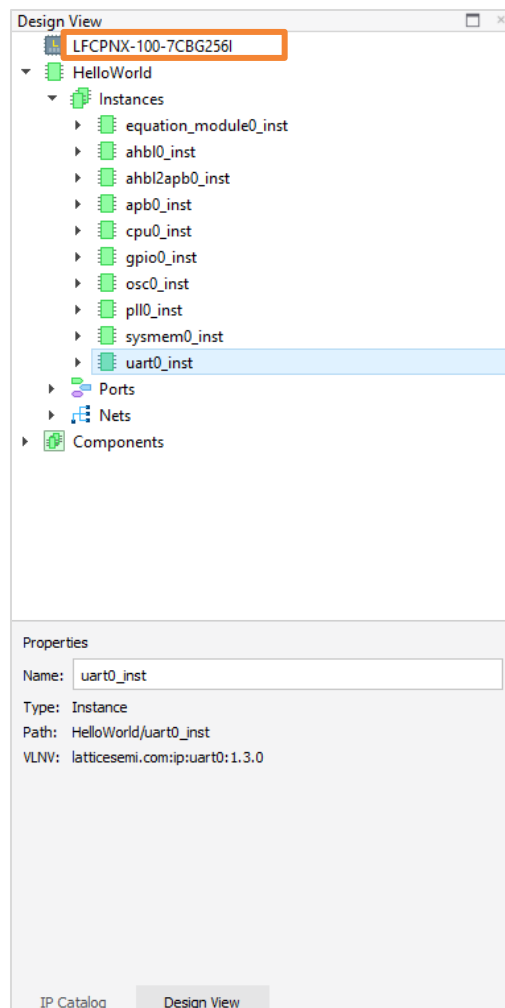

Figure 2.155. Design View of Device Part Number
4. Click **Yes**. By clicking **Yes**, the Builder engine regenerates each IP in the project with the updated device settings. All IPs in current project are configured. The new device part number shows in Design View (Figure 2.155).